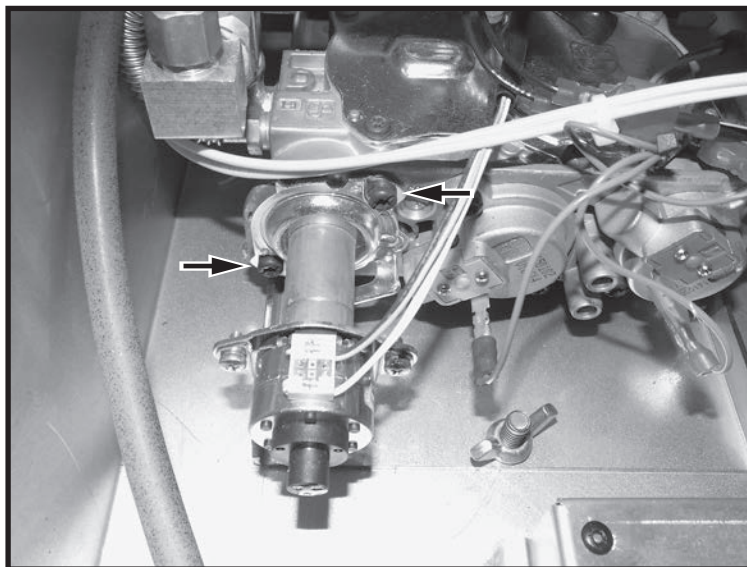
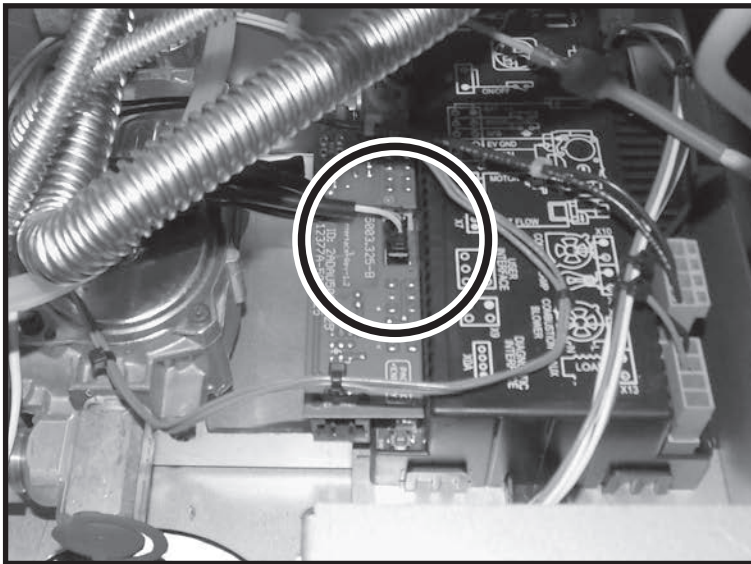

Figure 31: Stepper screws access.
Figure 32: Stepper connector location.
4. Locate the stepper (Figure 31) and follow its wires back to its electrical connection and disconnect (Figure 32).